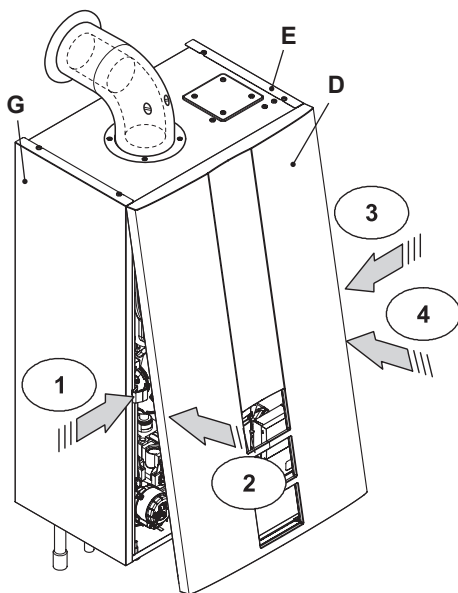

Fig. 10.4
- Push the case panel "D" down and in until completely held in place (Fig. 10.4) step 1-2.
- Repeat the same operation on the opposite side of the front panel "D", (Fig. 10.4) step 3-4.